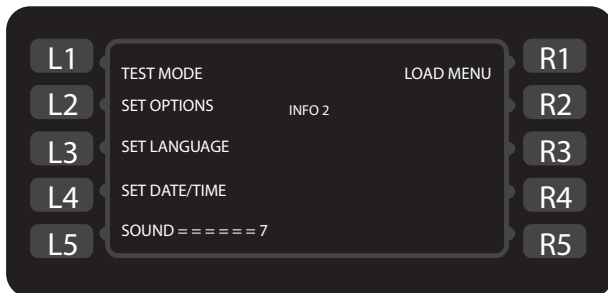
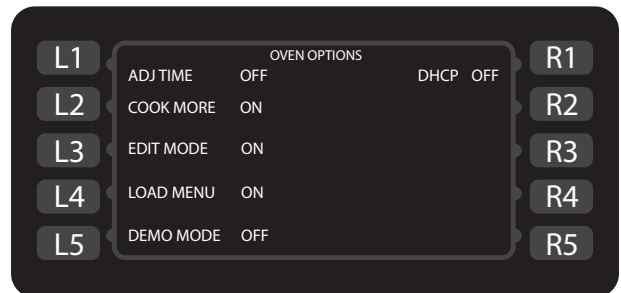
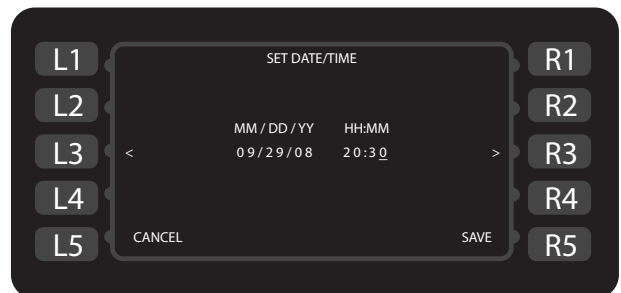
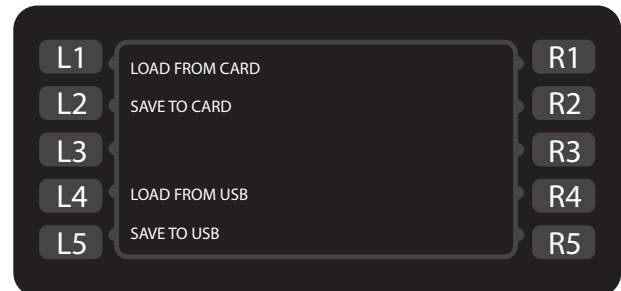

Figure 21: Info Mode Screen 2
Figure 24: Options Screen
Figure 25: Set Date/Time
Figure 27: Load Menu Screen
Press the Enter key to confirm a setting change in the Options Screen (Figure 24, page 14), when saving changes to food item settings (Figure 32, page 18), or whenever instructed by the oven screen.
Screen 2 of the INFO MODE (Figure 21) includes:
From screen 2 of the INFO MODE (Figure 21), press the L2 soft key to access the “Options” screen (Figure 24). When prompted, enter the password 9 4 2 8 and press the Enter key.
From screen 2 of the INFO MODE (Figure 21), press the L4 soft key to access the “Set Date/Time” screen (Figure 25).
From screen 2 of the INFO MODE (Figure 21, page 14), press the R1 soft key to access the “Load Menu” screen (Figure 27, page 16).
NOTE: This feature can be turned on or off via the “Options” screen (Figure 24).
2. Press the L1 soft key (Figure 27, page 16).
4. Press the L4 soft key (Figure 27, page 16).
2. Press the L2 soft key (Figure 27).
2. Press the L5 soft key (Figure 27).